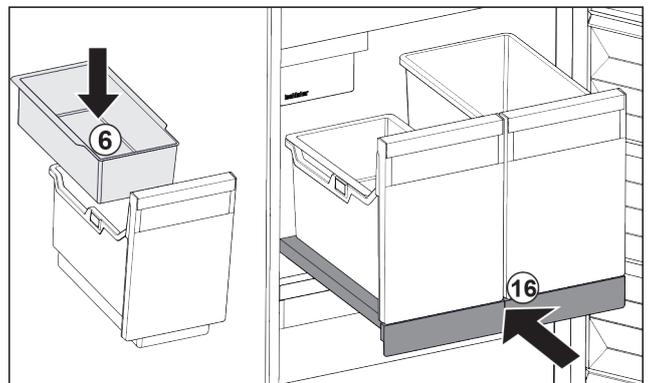

Fig. 35
- ▶ Insert hang-on tray *Fig. 35 (6)* for ice cubes.
- ▶ Slide in the pull-out board with (IceTower) container. *Fig. 35 (16)*